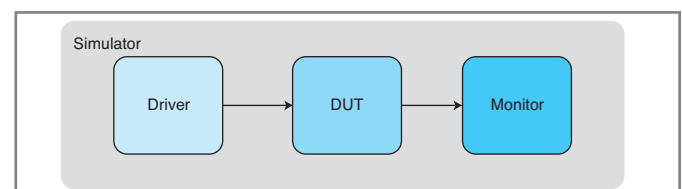

Figure 1—This is a typical setup for a functional and timing simulation of a DUT.
Figure 1 shows a typical setup for a design under test (DUT). The Driver module sends test vectors as input to the DUT. The Monitor module verifies the signal pattern coming out of DUT against the expected pattern. The Driver and Monitor modules are the two important portions of what is generally referred to as the test bench (TB). The complete setup is generally referred to as TB TOP, which includes the instantiated DUT. This entire setup works in